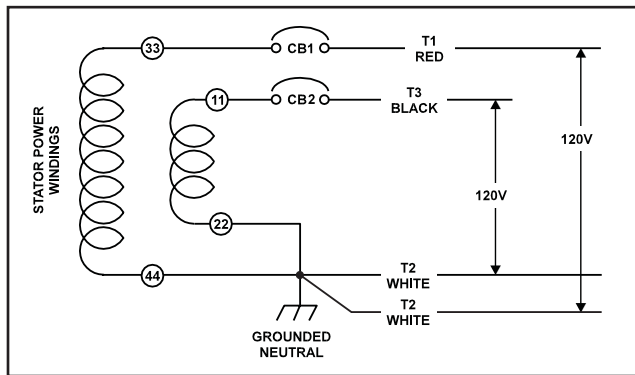

Figure 1-8. – Connection for 120 Volts Only
1. 120 VAC loads only — one load with a maximum total wattage requirement equal to the generator's rated power output (in watts), and 120 VAC across the generator output terminals. Figure 1-8, page 7, shows the generator lead wire connections for 120 VAC ONLY.